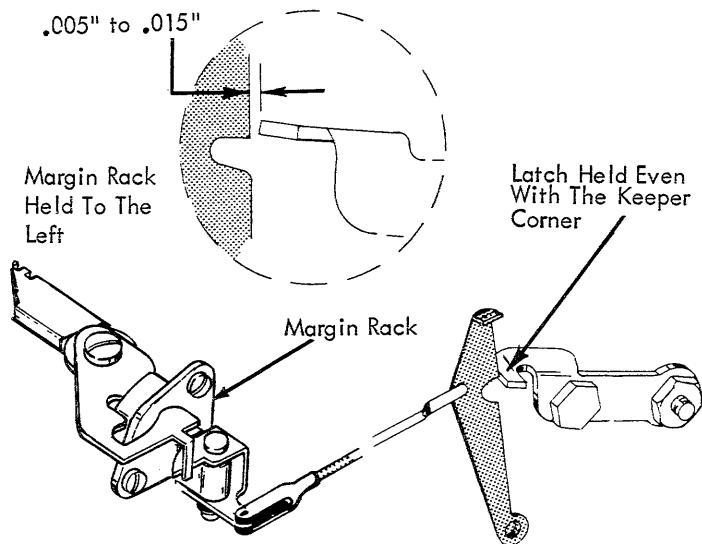

FIGURE 148. Clutch Unlatching Adjustment
9. Clutch Unlatching - With either style margin rack held to its extreme left position, the carrier return latch keeper should clear the latch by .005" to .015" at the unlatching point (Fig. 148). Check by manually holding the latch at the unlatching point while the machine is idling. Lengthen or shorten the carrier return unlatching link to obtain this clearance.